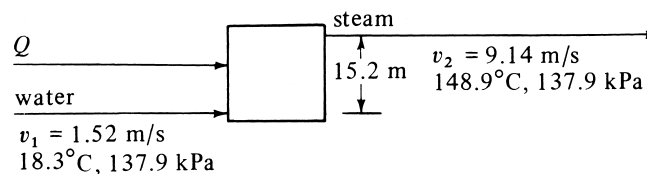

FIGURE 4.2-2. Process flow diagram for Example 2.7-1.
**Solution:** The process flow diagram is shown in Fig. 4.2-2. Rearranging Eq. (4.2-10) and setting  $\alpha = 1$  for turbulent flow and  $W_s = 0$  (no external work),